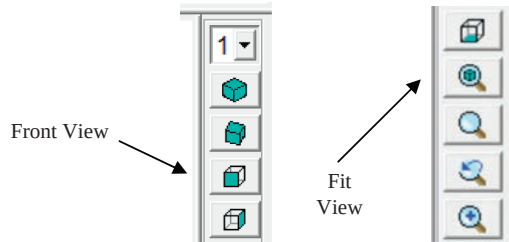

Figure 3-2-8 Front View (left) and Fit View (right) Buttons in the Graphic Window's Pan Zoom Rotate Menu.
- Click the “Front View” button in the Pan Zoom Rotate menu (Figure 3-2-8, left)
- Click on the “Fit View” button in the Pan Zoom Rotate menu if necessary (Figure 3-2-8, right)